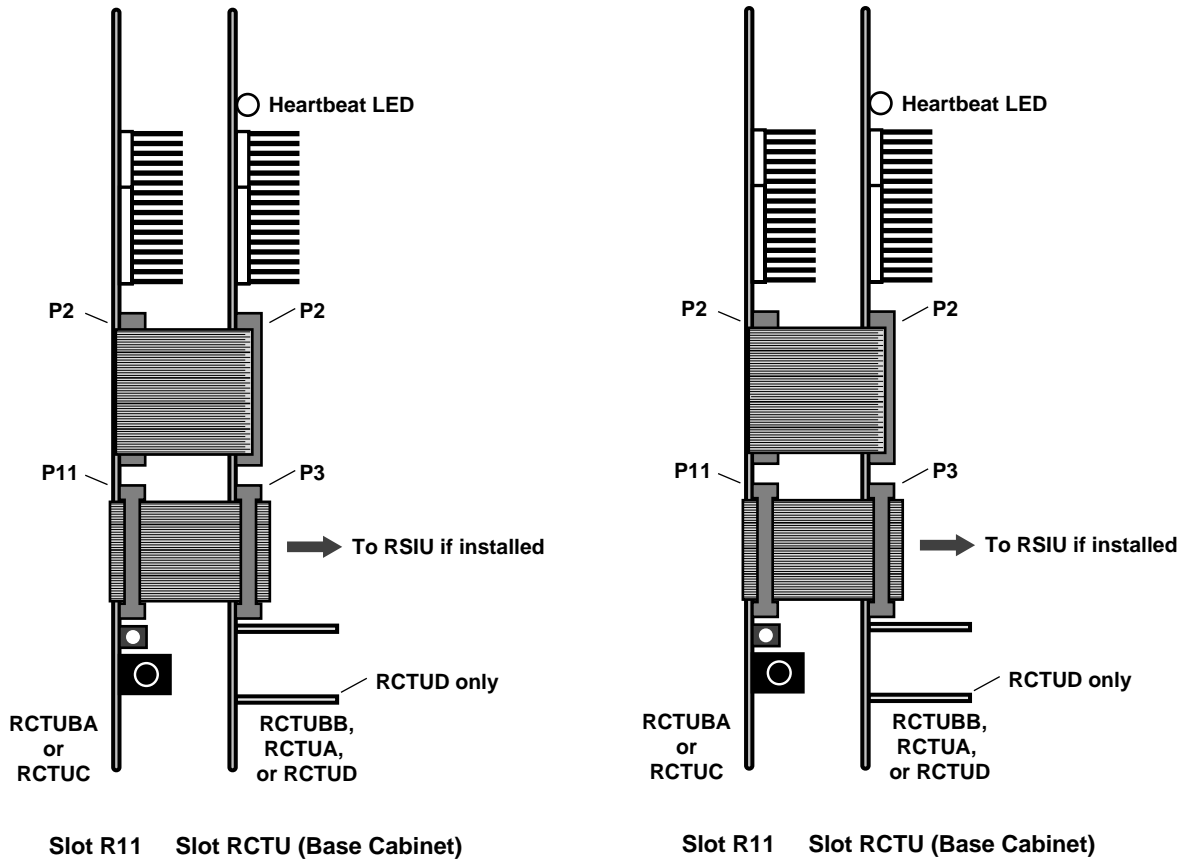

Figure 5-29 RCTU Slot Placement
1. The power supply must be OFF whenever removing or installing the common control unit—RCTUA, RCTUBA/BB, RCTUC/D and RCTUE/F (see Figure 5-29).